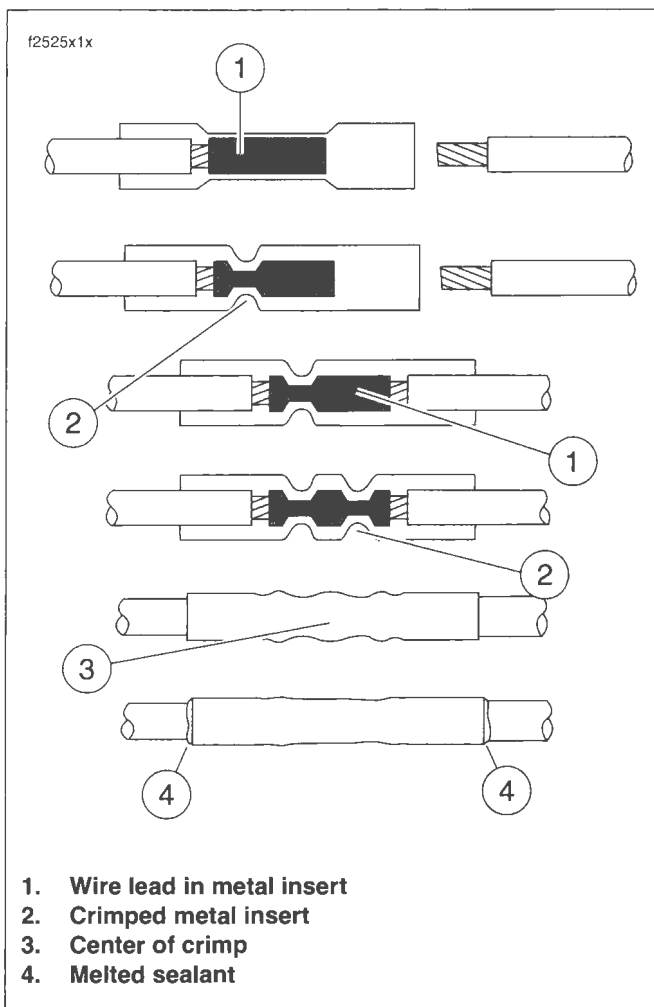

Figure B-49. Sealed Splice Connector
See Figure B-49. The connector is crimped twice - one side and then the other.
4. See Figure B-49. Feed the stripped end of a wire into the connector until the wire stops inside the metal insert (1).
5. Squeeze the handles tightly closed to crimp the lead in the insert (2). The tool automatically opens when the crimping is complete.
6. Slide the connector to the other half of the metal insert. Insert the stripped wire lead (1) until it stops, and crimp the lead in the insert (2).
See Figure B-49. Allow the splice to cool and inspect the seal. The insulation should appear smooth and cylindrical. Melted sealant will have extruded out the ends (4) of the insulation.